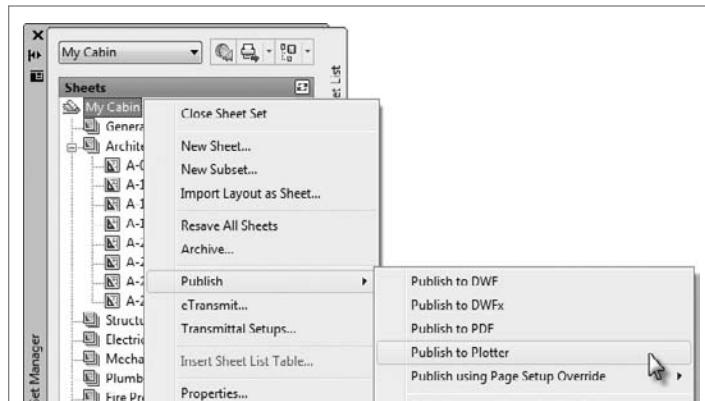

FIGURE 15.37 Publishing the entire sheet set to the default plotter
- Right-click on the My Cabin Sheet Set Name at the top of the Sheet List palette, and choose Publish > Publish To Plotter from the contextual menu that appears (see Figure 15.37).
You don't always need to plot every drawing inside your sheet set. Let's say you only want to plot the Architectural sheets in your plan set. Rather than right-clicking on the My Cabin sheet set name, you would right-click on the Architectural subset to display the contextual menu shown in Figure 15.37. Instead of plotting every drawing in your sheet set, Sheet Set Manager will plot only the sheets under the Architectural subset.